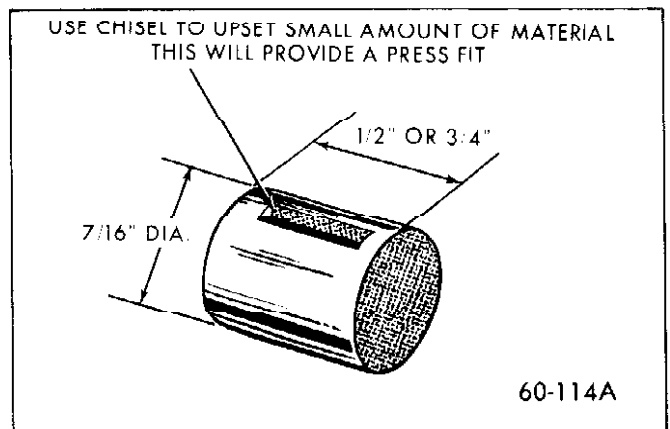

Figure 60-119 - Harmonic Balancer - Balance Weight Details
e. Cut a piece of 7/16" drill rod approximately 1/2" long. Use a chisel, upset a small amount of material on the side of the piece of drill rod. See Figure 60-119.